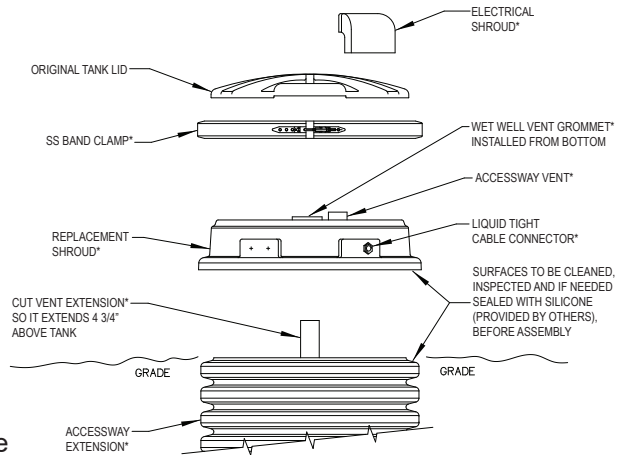

Figure 9
**INSTALL REPLACEMENT COVER ASSEMBLY (Fig. 9)**